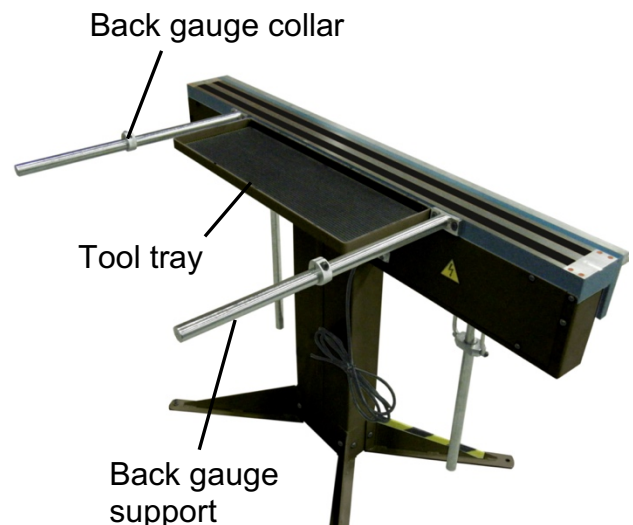

figure 4
1. Attach the tool tray to the back of the brake using (3) M8x12 socket cap screws and (3) lock washers.
3. Attach each back gauge bar to the brake with (2) M8x16 socket cap screws and (2) lock washers.
5. Slide a back gauge collar onto each bar as shown in (fig. 4).